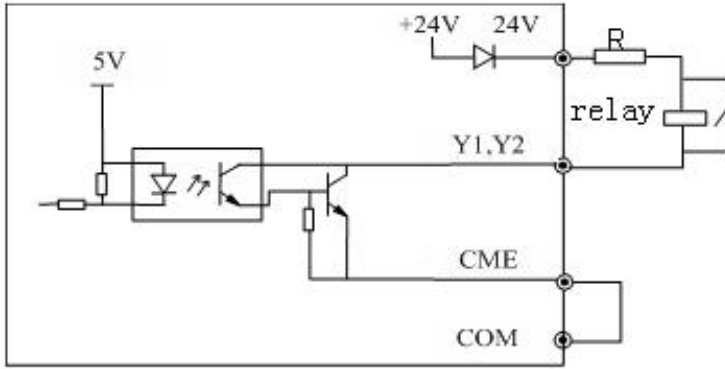

Fig 2-29 Wiring method 1 of multi-function output terminal
5) Multi-function output terminals Y1 and Y2 can use the internal 24V power supply of inverter and the wiring method is shown in Figure 2-29.